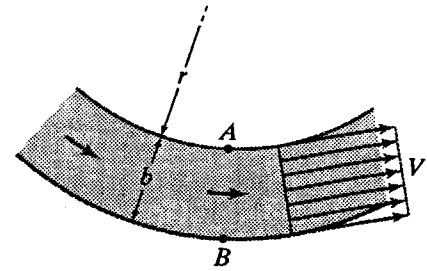

Figure X5.16.1
5.16.2 *Refer to Fig. X5.16.1. Flow occurs in a vertical plane. Data are as follows:  $r = 7$  m,  $b = 3$  m,  $\gamma = 9.81$  kN/m3,  $V = 5$  m/s. Find the pressure at A if the pressure at B is 150 kPa.*